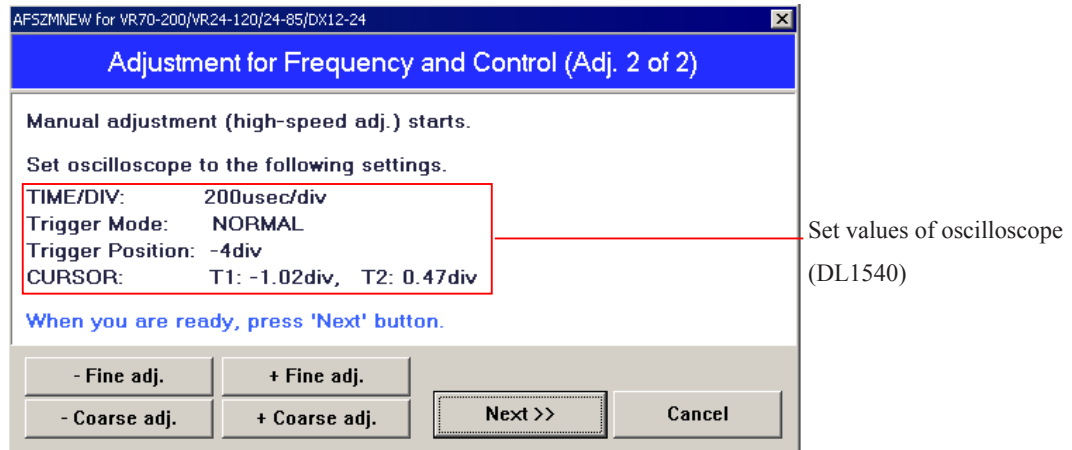

Fig.4
Make the high-speed adjustment of "Fig.4" by the same procedure as in the low-speed adjustment.
- "Fig.2" on Page L34-8 shows setting values for low-speed adjustment, while "Fig.4" on Page L34-9 shows those for high-speed adjustment.
- Because TIME/DIV, T1, T2, and other setting values are different between the low-speed adjustment and high-speed adjustment, check the values by referring to "Fig.2" on Page L34-8 and "Fig.4" on Page 34-9.